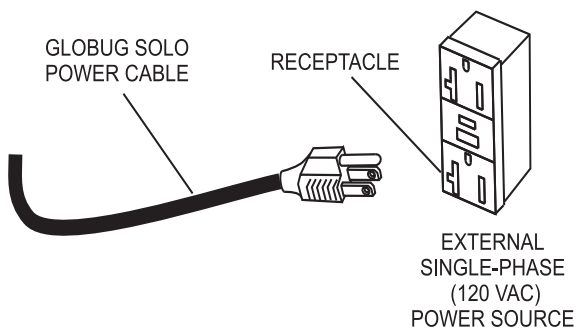

Figure 14. 120 VAC Receptacle
2. The GloBug Solo has a power requirement of 120 VAC, 60 Hz @ 9.5 amps. Connect the GloBug Solo's AC power cord to a 120 VAC power receptacle (Figure 14).